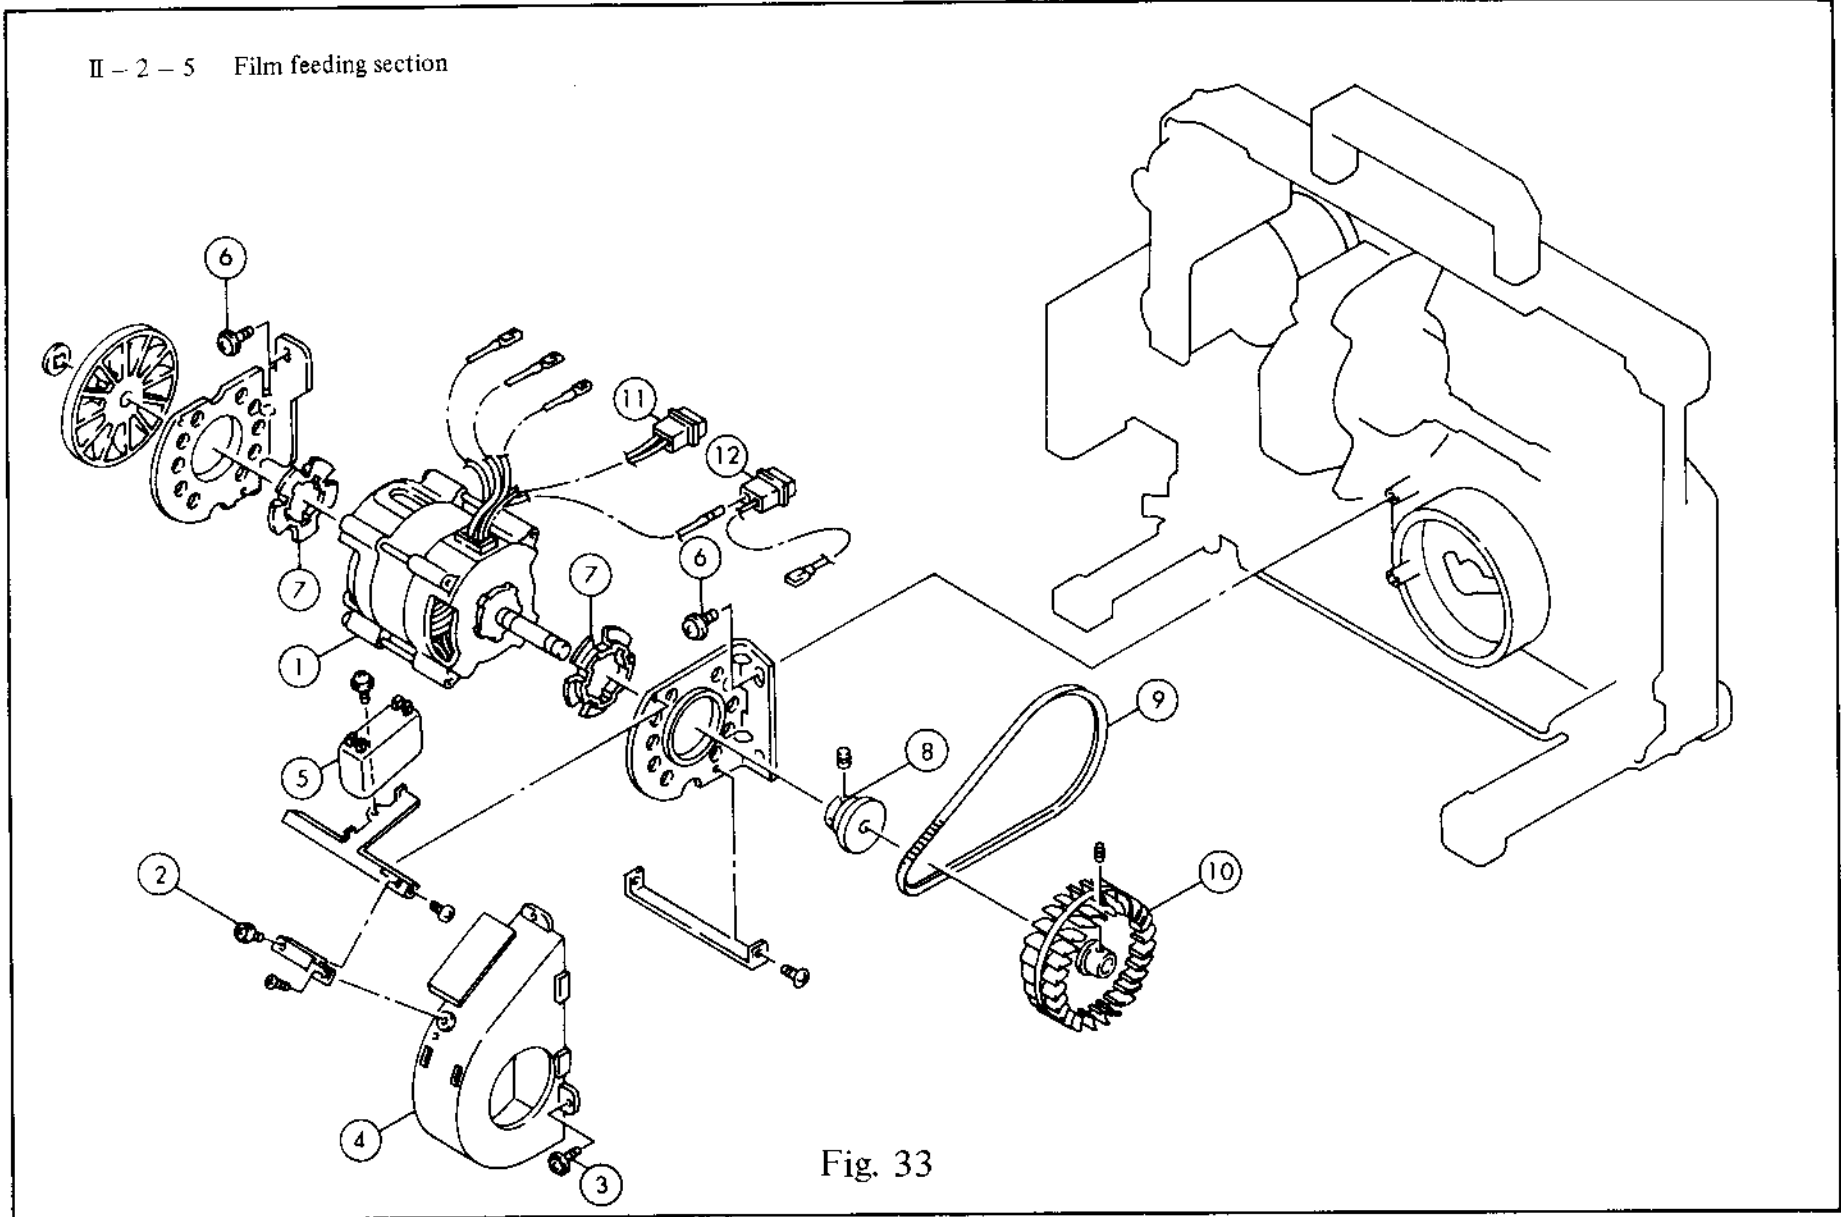

Fig. 33
2. Take out ④ by removing ② and ③ x 2 pcs.
3. Take out the assy of ① by removing ⑥ x 4 pcs.
4. For further disassembly, refer to Fig. 33.